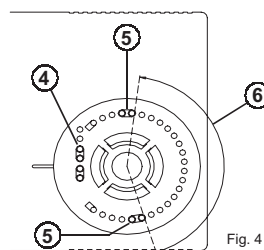

Fig. 4
2. Pick up the plastic pins (4) parked at one side of the knob area and set them (5) as in the example of Fig. 4. In this example (6) the rotation range is reduced as in the shown angle.